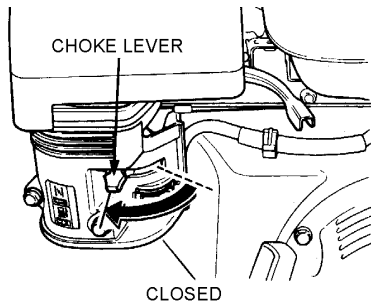

Figure 12. Choke Lever (Closed)
2. If the engine has started, slowly return the choke lever (Figure 12) to the "CLOSED" position. If the engine has not started repeat steps 1 through 6.